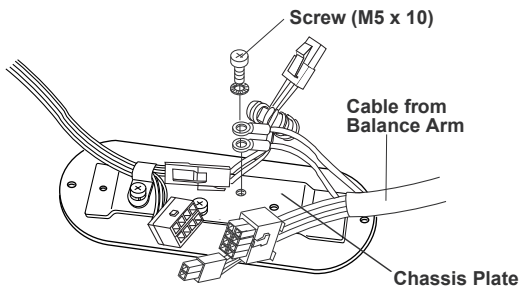

Fig.3-13A Attaching Grounded Wires on Bottom Cover
4. Secure 2 wires (Grounded wires) together with the (M5 x 10mm) screw on the bottom cover. (Fig.3-13A)
Note : Two ring terminals should not protrude from a chassis plate. (Fig.3-13A)